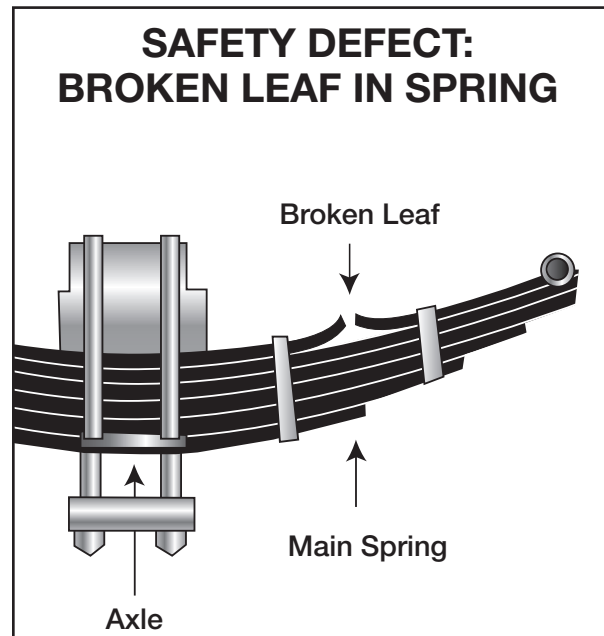

**Figure 2.2**
- Spring hangers that allow movement of axle from proper position. See Figure 2.2.